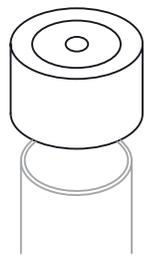

Figure 4
4. **IMPORTANT**, before gluing the nozzle to the end of the sized fountainhead tube, insert the cut end of the tube up through the bottom of the fountainhead collar then glue the nozzle in place using clear PVC to PVC cement. (See Figure 4)
5. IMPORTANT, before gluing the nozzle to the end of the sized fountainhead tube, insert the cut end of the tube up through the bottom of the fountainhead collar then glue the nozzle in place using clear PVC to PVC cement. (See Figure 4)
4. IMPORTANT, before gluing the nozzle to the end of the sized fountainhead tube, insert the cut end of the tube up through the bottom of the fountainhead collar **then** glue the nozzle in place using clear PVC to PVC cement. (See Figure 4)